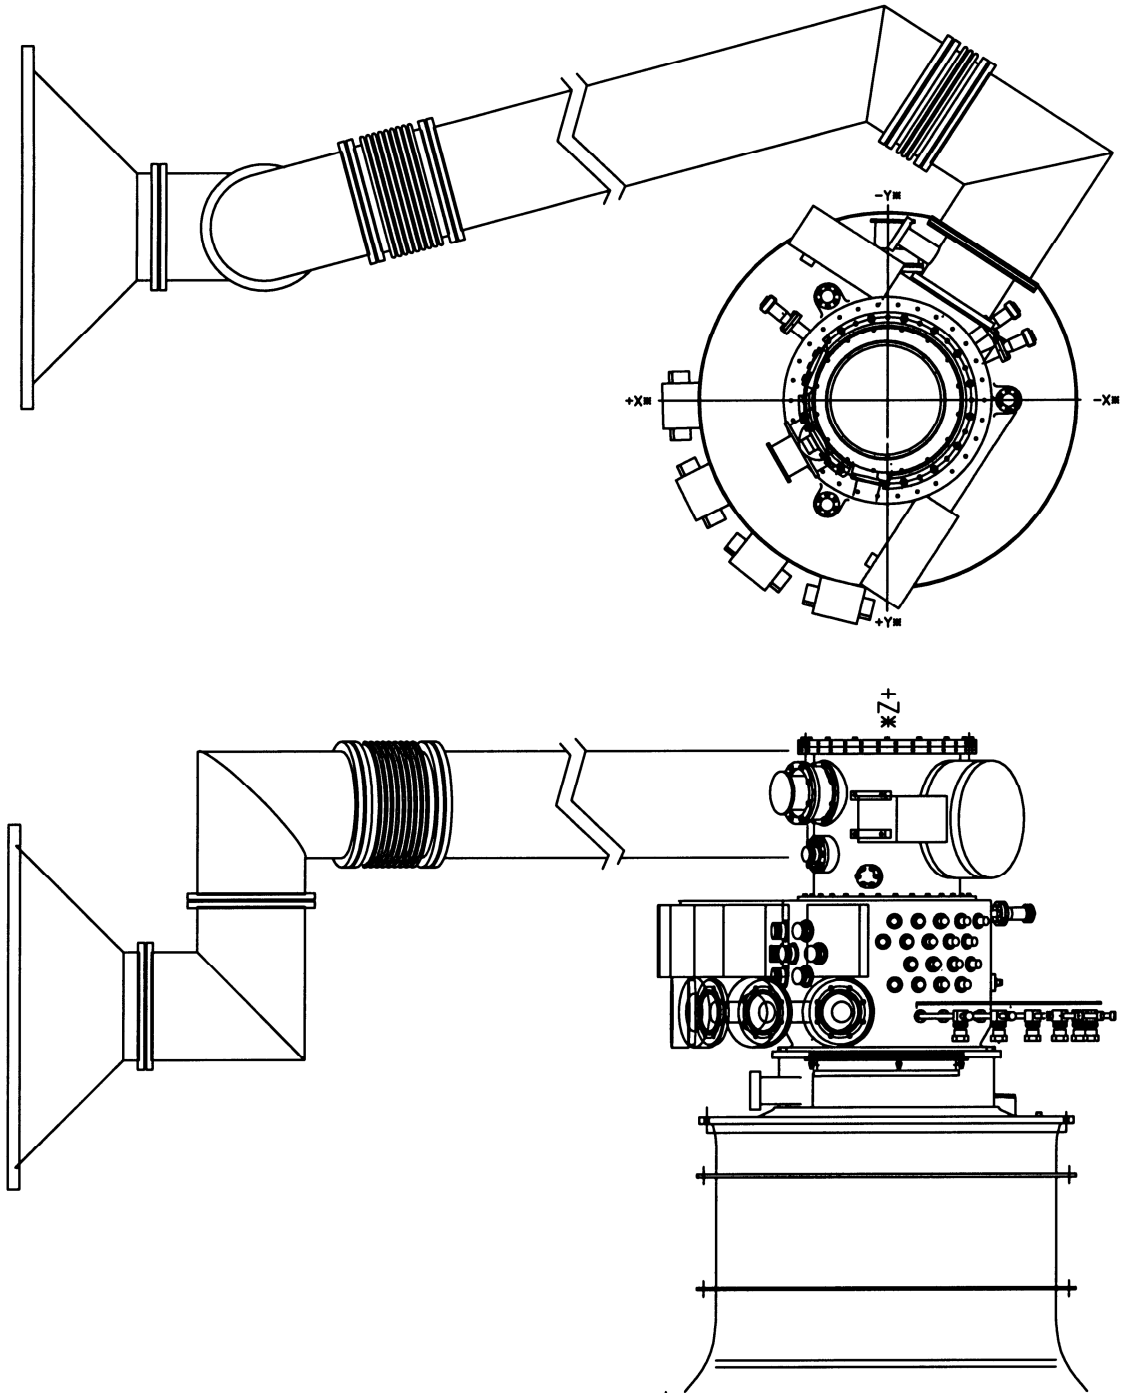

Figure 1
Probe-C is integrated into the SMD per drawing 65113-1C34292 and oriented with the +Z axis vertical and the +X axis facing the LGS. The LGS already has two Viton-sealed elbows installed and aligned with the first elbow oriented vertically (see Fig. 1). The LGS is shut down and vented to 1 atmosphere.
- L.4.2 Using the Evac aluminum seals and 8 clamps for each seal, preassemble the the 6" bellows on the long end and the 3" bellows on the short end of the mitered 8" pumping line as shown in Fig. 1. Do not install threaded rod struts across either bellows.